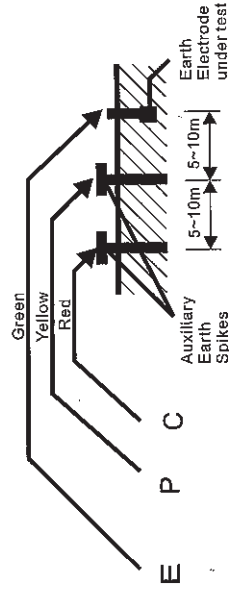

Fig.1
(1) Connect green, yellow and red test leads to instrument terminals E, P and C with auxiliary earth spikes P1, C1 stuck into earth "IN A STRAIGHT LINE". (Fig. 1)
(2) Rotary the function switch to suitable range then press the pushbutton to test and take the reading.
- (6) Since measuring current is as low as 2 mA, the earth leakage breaker (ELCB) does not trip even if the earth side of the commercial power supply with an ELCB is used.
*** Follow the proper connection such as Fig. 1, the LED (red) indicator will lit. This proves a correct current circulation is under its operation.**